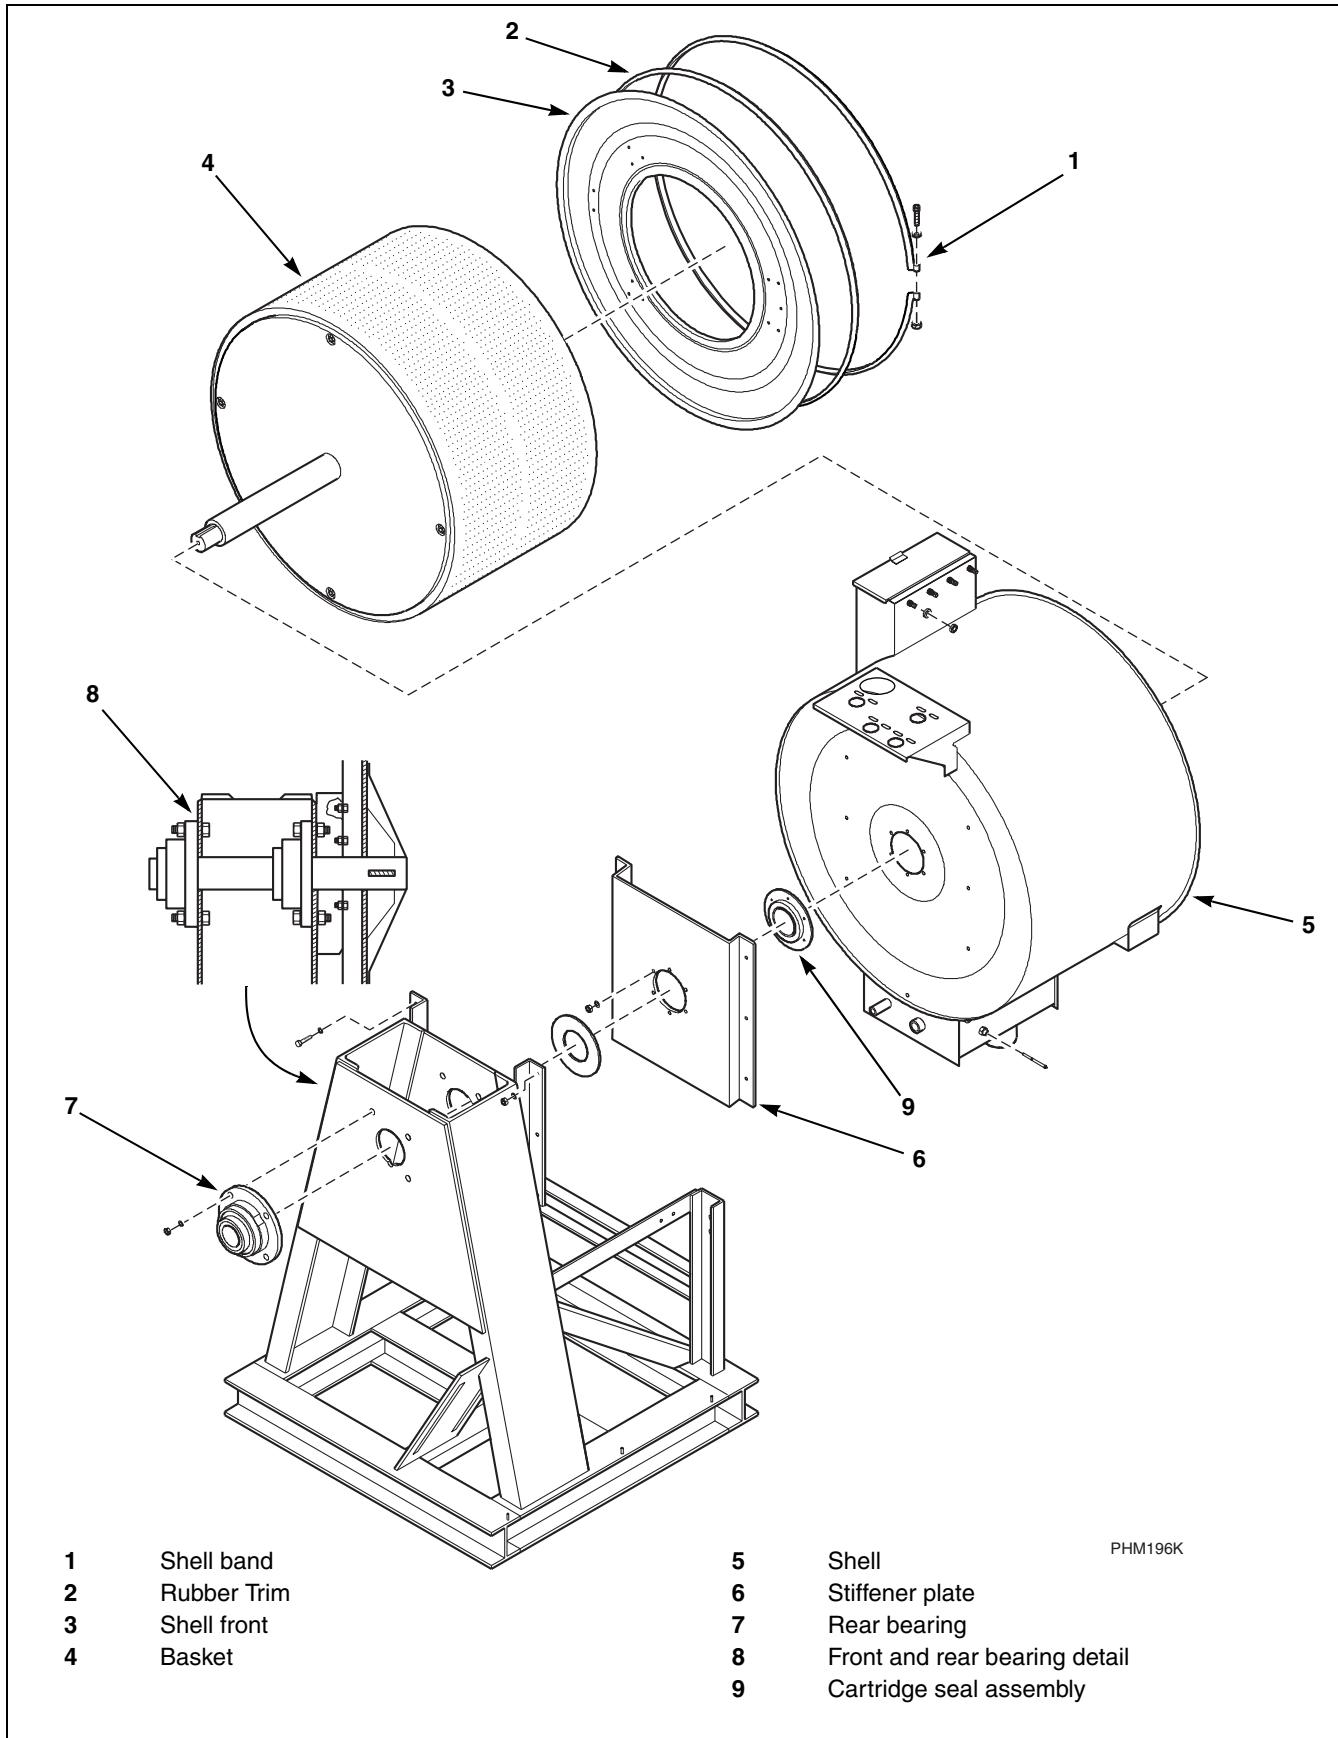

Figure 29
- e. Remove the nut, bolt and shell band from around the door. Refer to *Figures 29 and 30*.